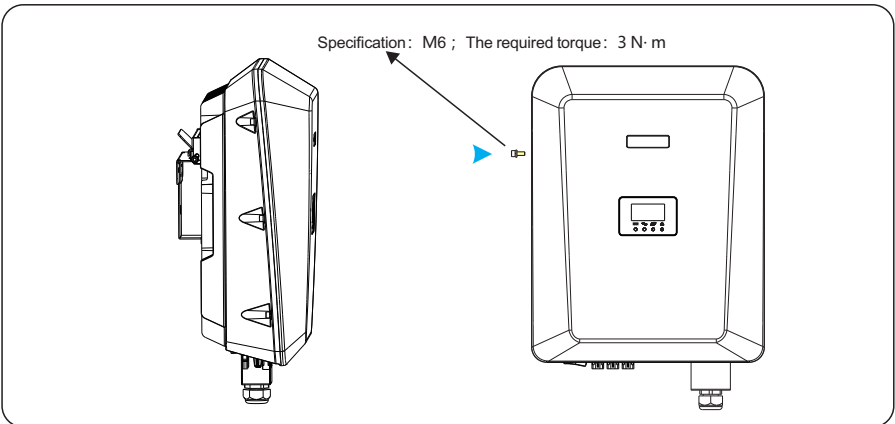

Figure 4.15 Securing the inverter
**Step 7** Lock the inverter with the rear panel and ensure that the inverter is secured by checking for resistance when a slight pull is applied, as shown in Figure 4.15.